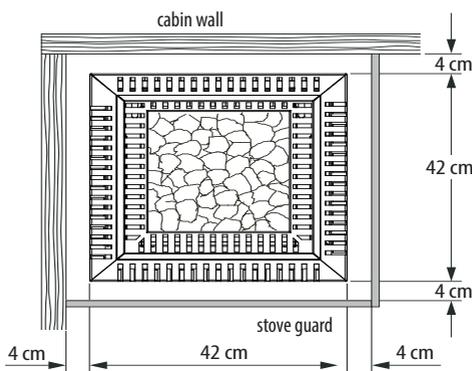

Fig. 2
- Make sure that the horizontal distance between the heater and cabin wall is at least **4 cm** (Fig. 2).